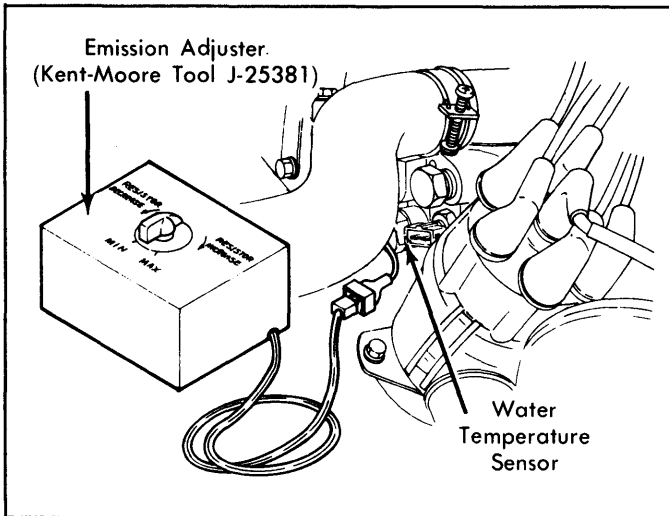

Fig. 4: Connecting Emission Adjuster To 280ZX & 810 Models
2) Turn ignition switch to "OFF" position. Disconnect electrical connector from water temperature sensor, then connect Emission Adjuster (J-25381) to sensor connector. See Fig. 4. Insert exhaust gas analyzer probe into exhaust pipe.